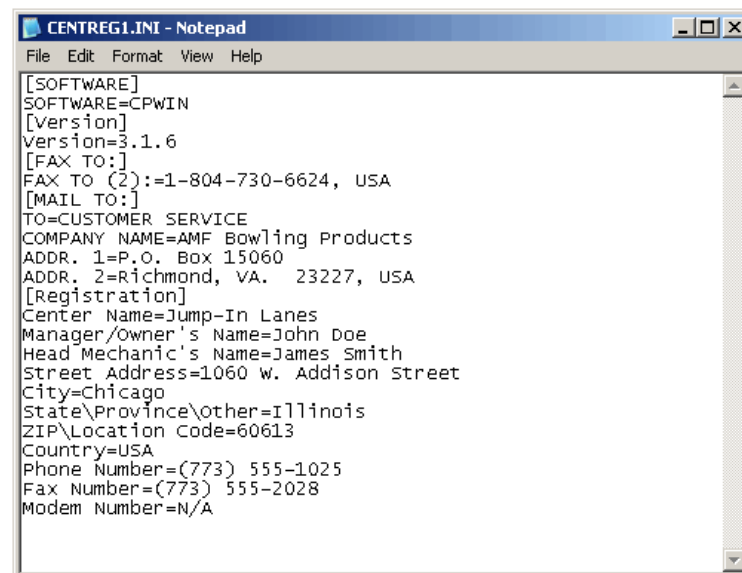

Figure 1-19
18. **Figure 1-19** shows an example of the registration information that comes up on the screen after clicking the <**Finish**> button mentioned in step 17. Please print out your file that opens up so you can fax it or sent it through the mail to QubicaAMF (If you do not have a printer installed on the computer, save the file to a floppy disk and print it from one that does).